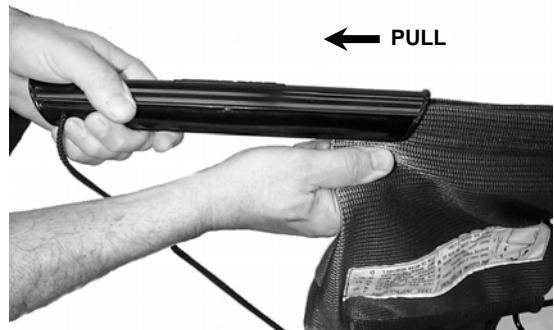

FIGURE 2.14
3. Dump bag by pulling bag slider off of Z-Fold at rear of bag, opening bag. See Figure 2.14
5. Grasp the edge of the Z-fold, and while holding the slider, pull the Z-fold fully into the slider. See Figure 2.14.